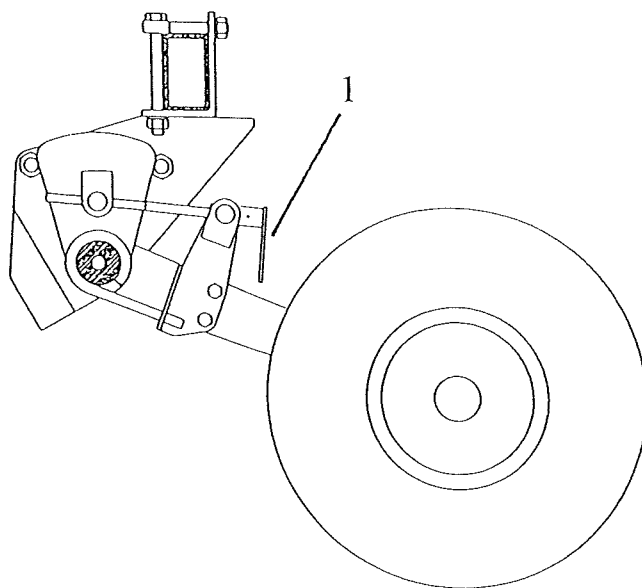

Fig 6.8
The share depth is automatically controlled by proximity sensors situated adjacent to each depth wheel. These are activated by trigger plates attached to the depth wheel mounting frame. Each depth wheel being adjusted and controlled independently of the other (fig 6.8).
Turning the handle clockwise increases the digging depth, whilst turning the handle anti-clockwise lessens the digging depth (fig 6.8 item 1).